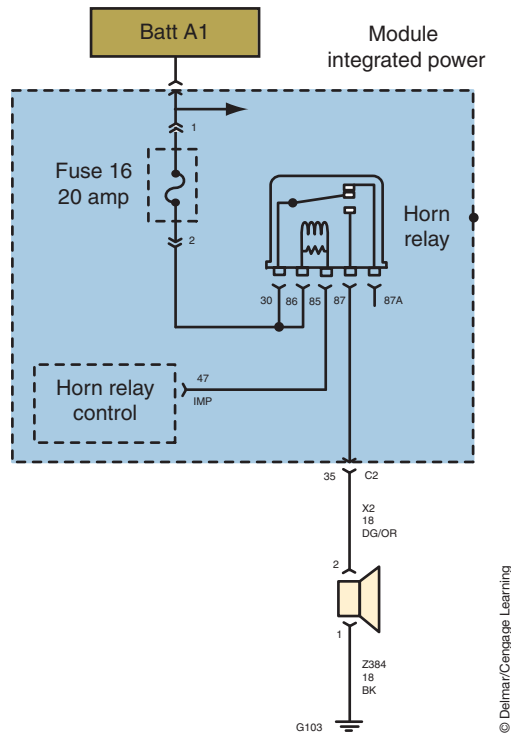

FIGURE 4-32
6. Using Figure 4-32, what would be the LEAST likely cause for fuse 16 blowing?